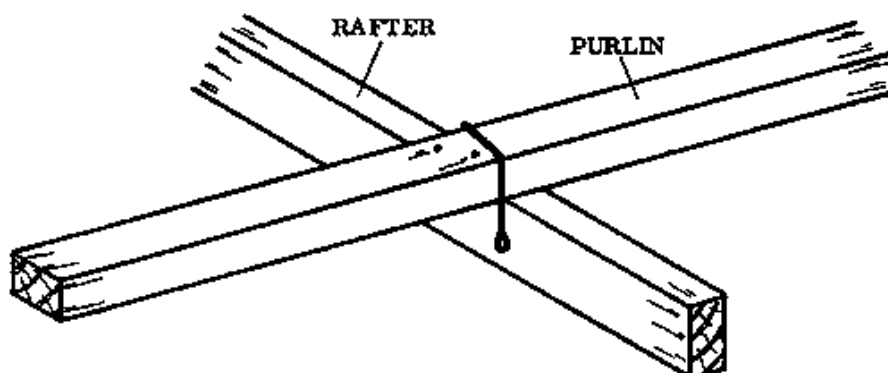

Fig. 1
- PURLINS: Tie all the purlins to every rafter, preferably with iron rods. These are shaped as shown in Fig. 1, by hammering the rod flat on both ends and drilling holes in the ends, then bending the rod to a U-shape.